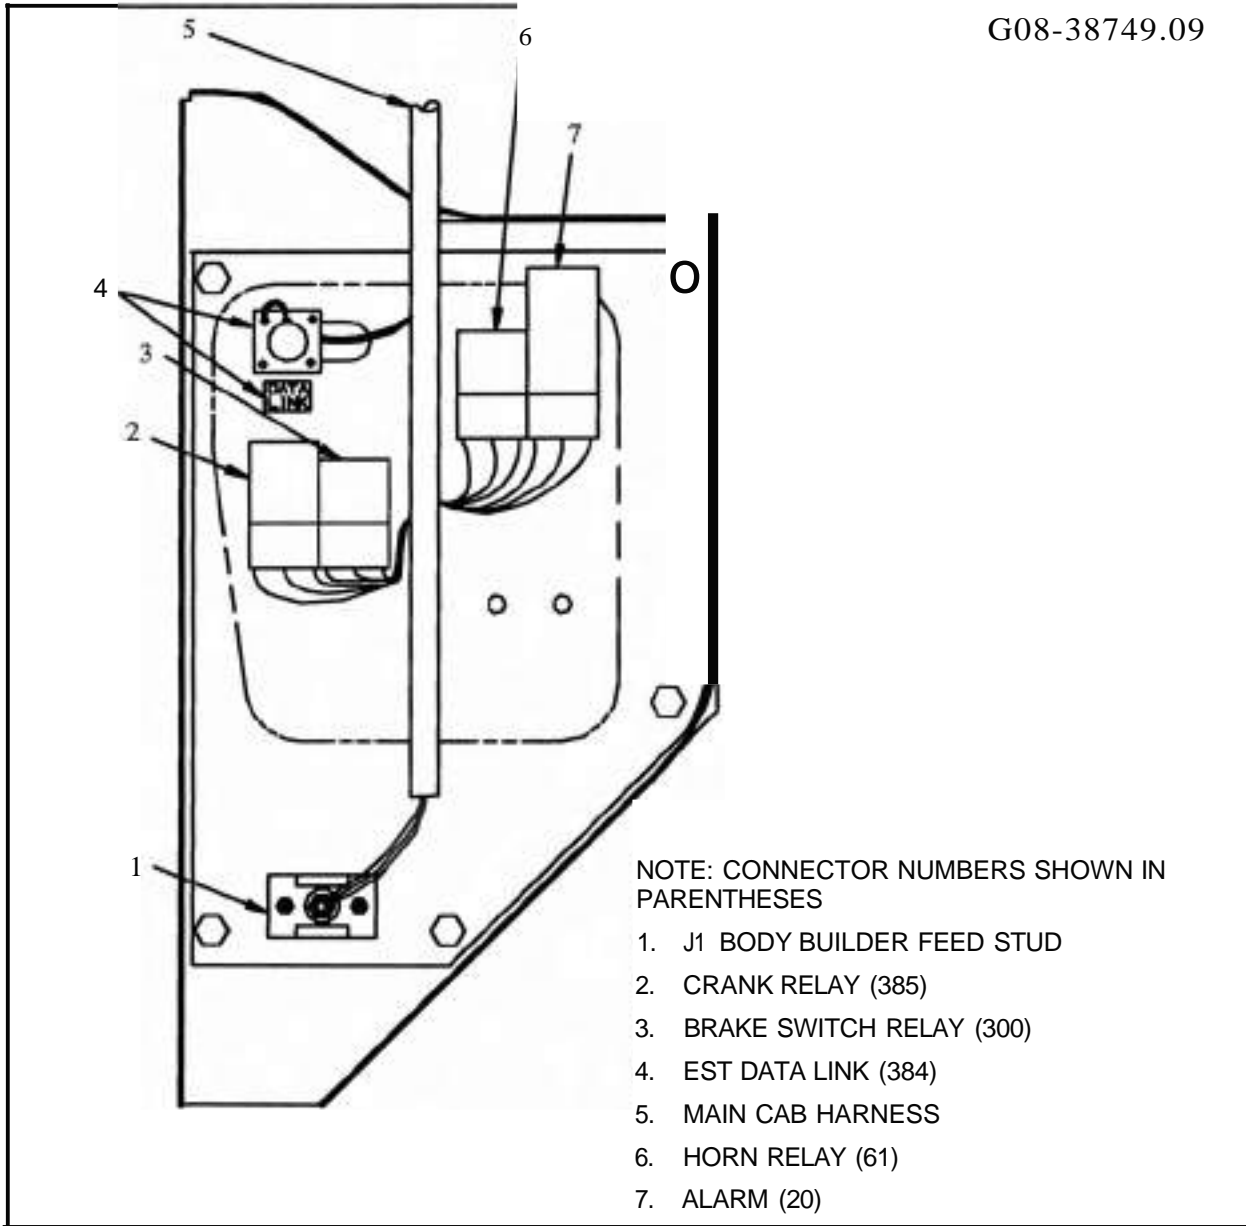

Figure 7.18 - FBC Left Kick Panel
| <ul style="list-style-type: none"> 1. JUNCTION BOX COVER 2. G2 GROUND STUD 3. ECMNPM MODULE SUB-ASSY. (FIGURES 7.7 AND 7.8) 4. CIRCUITS 11-G, 36-G, 11-GD, 97-GK, 97-GQ 5. 31-PIN DEUTSCH CONNECTOR (3) 6. SEE FIGURES 7.13 AND 7.14 7. MAIN CAB HARNESS 8. DASH CONNECTOR (2) 9. RED POSITIVE (427) & BLUE NEGATIVE (428) BUS CONNECTORS 10. BODY BUILDER CONNECTOR (194) & LABEL 11. CIRCUIT 11-GD GROUNDS AT MTG BOLT 12. 2-SPEED AXLE ONE WAY CONNECTORS | <ul style="list-style-type: none"> 13. VPM CONNECTORS (435) AND (436) 14. EST CONNECTOR (384) 15. HORN RELAY (61) 16. BRAKE SWITCH RELAY (300) 17. CRANK RELAY (385) 18. J1 BODY BUILDER FEED STUD 19. REF: LEFT COWL INNER PANEL 20. STARTER INTERRUPT CONNECTION (CIRCUIT 17 TO 17C) 21. DIMMER SWITCH CONNECTOR (17) 22. DIMMER SWITCH 23. FOG LIGHT CONNECTOR (115) 24. ALARM (20) 25. SEE FIGURE 7.18 |